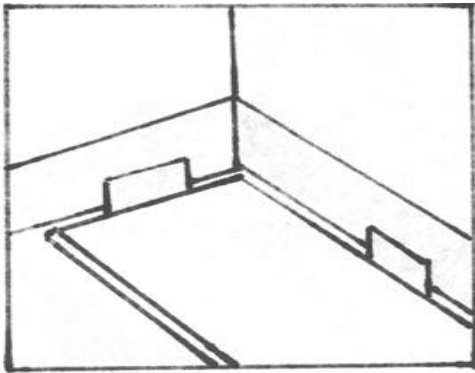
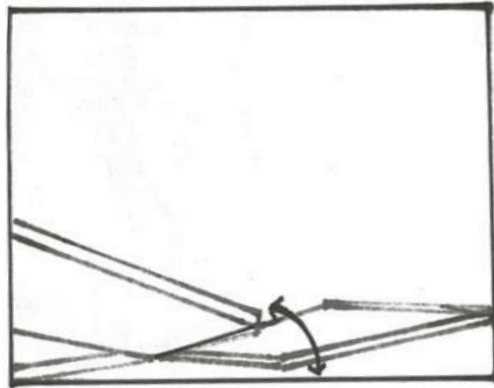
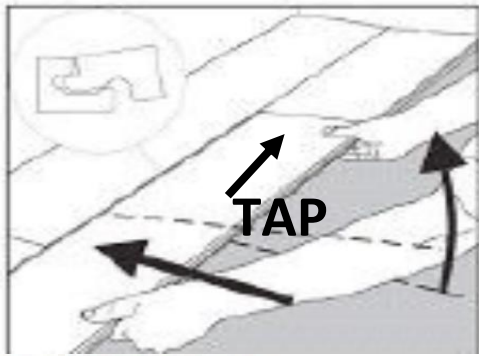

FIGURE 1
FIGURE 2
FIGURE 3
- Begin the first row working right to left. Insert minimum $\frac{1}{4}$ ” spacers around the perimeter of the room allowing for proper expansion space. See figure 1. The tongue should be facing the wall. Insert the next plank to the left and connect the short joint (figure 2) at an angle, ensure a complete connection between the two.
- Using a scrap piece of plank, align it to the left side of the second plank and lightly tap the scrap piece with a rubber mallet towards the first plank (figure 3). Do not tap the face or locking mechanism of the product with the rubber mallet without using a scrap piece.
- Begin the first row working right to left. Insert minimum 1/4” spacers around the perimeter of the room allowing for proper expansion space, use 3/8” spacers if any run of material exceeds 40 linear feet, but does not exceed 65 linear feet. For installations exceeding 65 linear feet, please contact technical services. (Figure 2). The tongue should be facing the wall. Lay the next plank and connect the short joint (Figure 3 A/B) by placing it directly in the short side locking mechanism, ensure a complete connection between the two. Press the plank down until you hear an audible clicking sound.